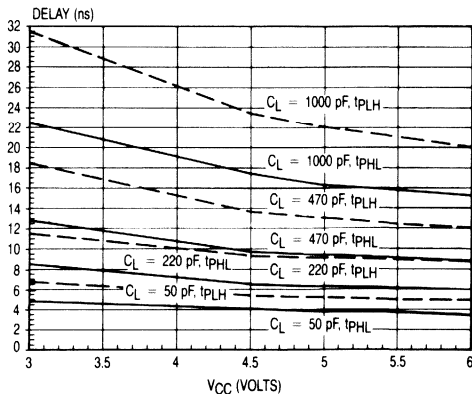
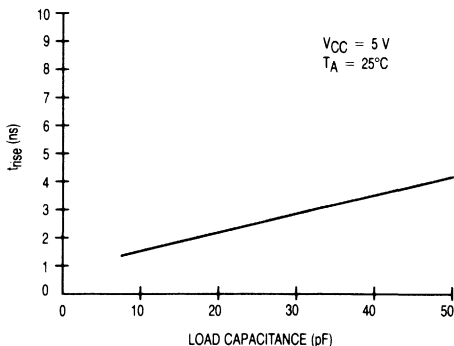

Figure 2-12. Propagation Delay versus VCC ('AC00)
Figure 2-14. trise versus Capacitance
The two graphs following, Figures 2-12 and 2-13, describe propagation delays on FACT devices as affected by variations in power supply voltage (VCC) and lumped load capacitance (CL). Figures 2-14 and 2-15 show the effects of lumped load capacitance on rise and fall times for FACT devices.